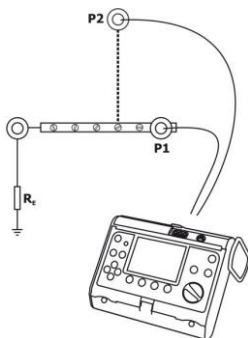

Fig. 16. Connection of the meter
- connect the meter with cables to the network socket of the board in accordance with Figure 16,